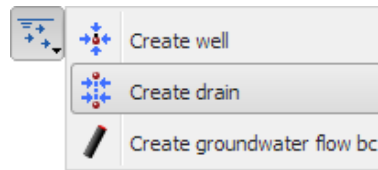

Figure 109: Create Drain option
1. Click the **Create hydraulic conditions** button in the side toolbar and select the **Create drain** option in the appearing menu which is shown in Figure 109 (on page 130).